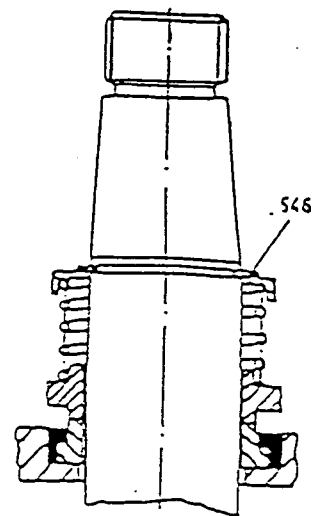

Fig. 22
a) Exposed-spring type seal - "C" (Figure 22)